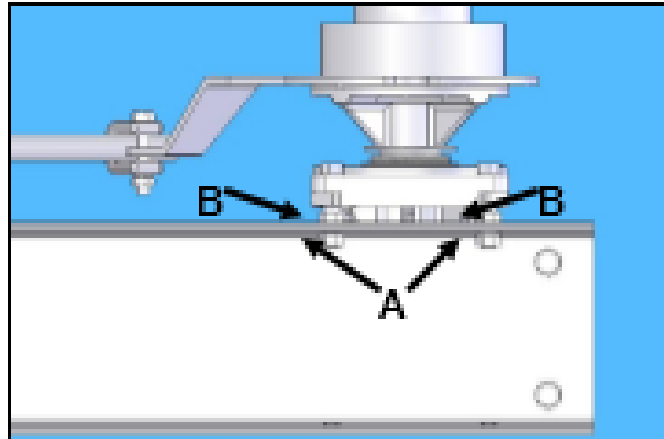
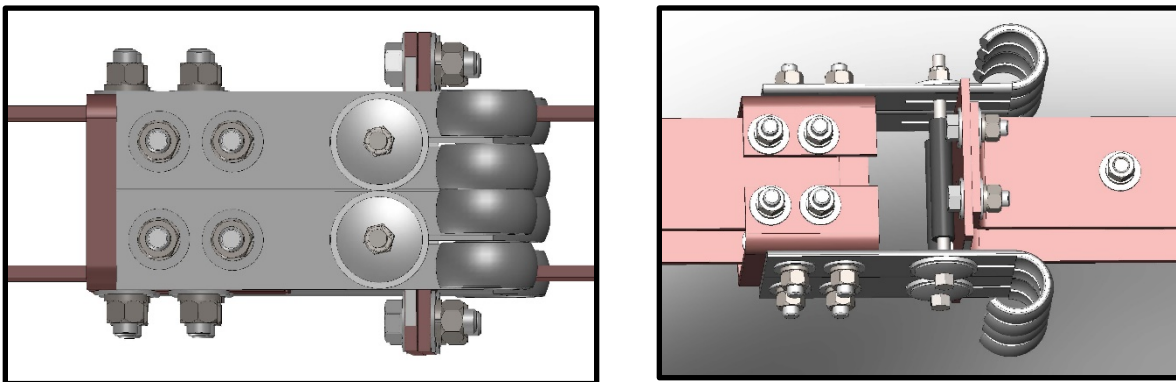

Figure 4: Insulator Stack Alignment (72.5kV Bearing)
Figure 5: Switch - Fully Closed Position (Left – Side View, Right – Top View)
6. Confirm proper insulator alignment. Both insulators must be as near to perpendicular as possible to both the long and short axis of the disconnect switch base. **NOTE:** The original insulator stack height must be maintained. When the nuts on the jack bolts are used to adjust insulator tilt, opposite nuts must be turned equally (run one nut up a certain number of turns, turn the opposite nut down the same number of turns). Refer to **Figure 4**.
9. If the insulator needs adjustment, use the nuts on the jack bolts of the insulator bearing to tilt the insulator in the needed direction. Refer to **Figure 4**.
Refer to Figure 4:
5. The male blade assembly should touch the contact fingers as shown in **Figure 5**. If adjustment is necessary to achieve contact, loosen the bolts that attach the blades to the insulators, and use the bolt hole tolerances to adjust the spacing. If a gap is still present utilize the insulator stack adjusting bolts to adjust further (Refer to **Figure 4**). Torque all bolts to the recommended value(s) shown in **Table 2**.
6. Contact fingers should be centered or as close as possible on contact bar. All contact fingers must make contact with silver on contact bar in closed position as shown in **Figure 5**! Reference source not found..